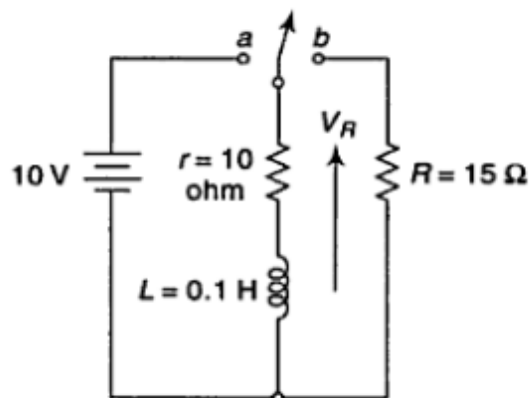

Fig. 3.36 Network of Ex. 3.47
3.47 For the network shown in Fig. 3.36
The current continues to flow in the same direction as before, therefore the voltage drop across R is negative to the direction of the arrow shown in Fig. 3.36. $v_R = i_b \cdot R = -15 \times e^{-t/4 \times 10^{-3}} \text{ V.}$
3.48 For the network shown in Fig. 3.36 (Ex. No. 3.47) the switch is closed on the position 'a'. Next, it is closed on to position 'b' when $\tau = 10$ ms. Again, find the expression of current and hence draw the current wave forms.